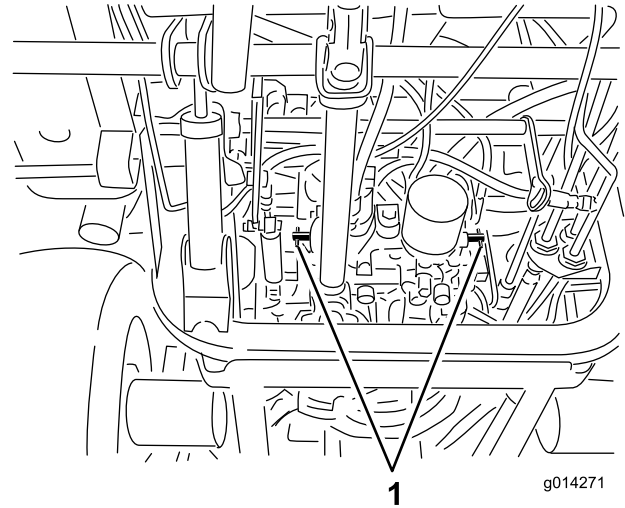

Figure 28
4. Rotate each by-pass valve counterclockwise 1 turn (Figure 28).
Rotate each by-pass valve clockwise 1 turn and hand tighten them (torque of approximately 71 in-lb (8 N-m)) (Figure 28).